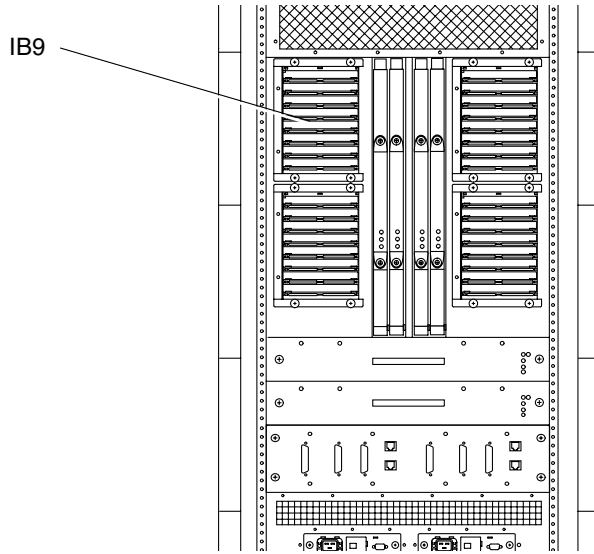

FIGURE 12-37 Removing IB9 I/O Assembly—Sun Fire 6800 System
3. Facing the rear of the system, remove the upper left I/O assembly IB9, from the system (FIGURE 12-37).